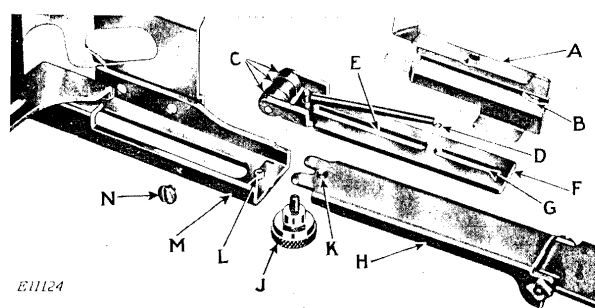
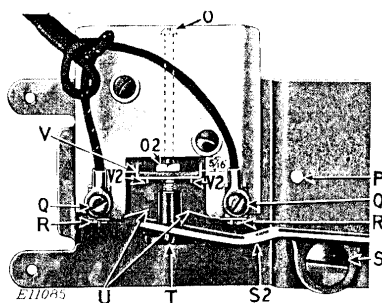
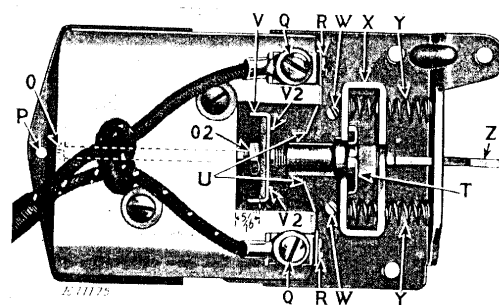

FIG. 9. KNEE LEVER SLIDE PARTS DISASSEMBLED
FIG. 10. KNEE CONTROLLER WITH COVER REMOVED
FIG. 11. TREADLE CONTROLLER WITH COVER REMOVED
The following instructions cover the Knee Controller, Fig. 10 (used in connection with Cabinet 40) and the Treadle Controller Fig. 11 (used in connection with Cabinet 404 and Stand 46913).
**Knee Controller.** To inspect and clean knee controller mechanism, remove complete knee controller from cabinet as instructed on pages 5 and 6. Take out thumb screw (J, Fig. 9) and remove
knee lever (H, Fig. 9) from the slide housing (M, Fig. 9). Take out screw (N, Fig. 9) and remove the slide cover (A, Fig. 9) after disconnecting spring (D, Fig. 9) from hook (B) on the inside of cover (A). Inspect the slide rollers (C) making sure that they revolve freely. Before reassembling, clean knee lever slide parts and apply a small quantity of Singer Motor Lubricant to the slide (F) at all points where it comes in contact with slide housing (M), also on the edges of the slot (G) which is engaged by stop pin (L), and on the surfaces of, and between, the three slide rollers (C). Also apply a small quantity between fulcrum lever (S2, Fig. 10) and the controller frame, and between screw head (S, Fig. 10) and fulcrum lever (S2, Fig. 10).
To **Inspect Carbon Controller Unit of Knee Controller** and of **Treadle Controller**, remove screw at (P, Figs. 10 and 11) to remove the controller cover, and inspect the wires and connections at (Q, Figs. 10 and 11).
screws (W)—to stop the motor, the face of the bakelite strip, between the cross slide (V) and nut (O2), should be about  $\frac{5}{16}$  inch from the flat face of the porcelain as shown in Figs. 10 and 11. If the distance is not  $\frac{5}{16}$  inch, release insulating nut (T, Figs. 10 and 11) from its seat by pushing on the end of pull rod at (O), and turn nut (T) until correct adjustment is obtained.
Do not disturb the adjustment of nut (O2, Figs. 10 and 11).
**Knee Controller.** See that the knee lever (H, Fig. 9) is fully released, with the stop pin (L, Fig. 9) at the extreme lower end of slot (G, Fig. 9) of slide (F, Fig. 9), and see that insulating nut (T, Fig. 10) is properly seated in end of lever (S2, Fig. 10).
**Treadle Controller.** See that the yoke (X, Fig. 11) is at the stop position against the two screws (W, Fig. 11), and see that insulating nut (T, Fig. 11) is properly seated in yoke (X).
Replace controller cover and tighten screw at (P, Figs. 10 and 11).
This lever is adjustable for length to the limits of slot (E, Fig. 9) of slide (F). Loosen thumb screw (J, Fig. 9) and slide knee lever (H, Fig. 9) inward or outward in slide housing (M, Fig. 9) for length to suit operator, then tighten thumb screw (J).